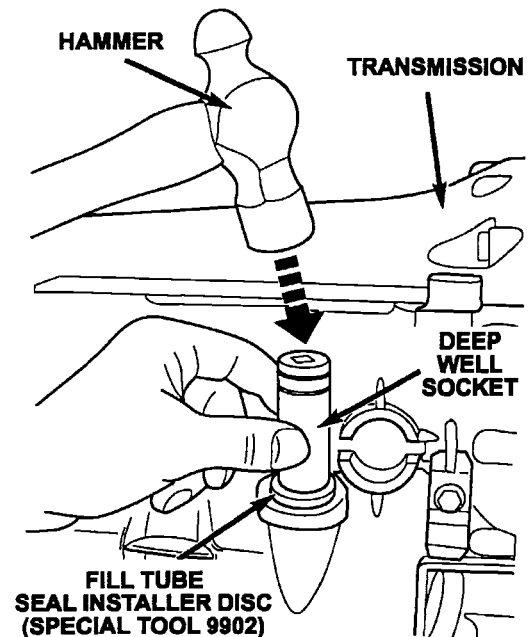

Figure 8
29. Install the new fill tube oil seal using seal installation disc (Special Tool 9902), a deep well socket and a small hammer (Figure 8). Drive the seal down until the seal installer edge contacts the case.